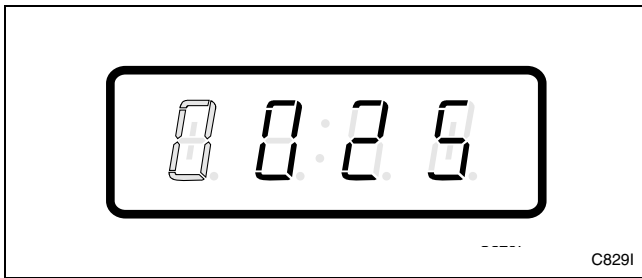

Figure 91
6. Press the START (enter) keypad to enter the fifth digit and display remaining four digits. The active digit will flash one second on and one second off. Refer to *Figure 91*.